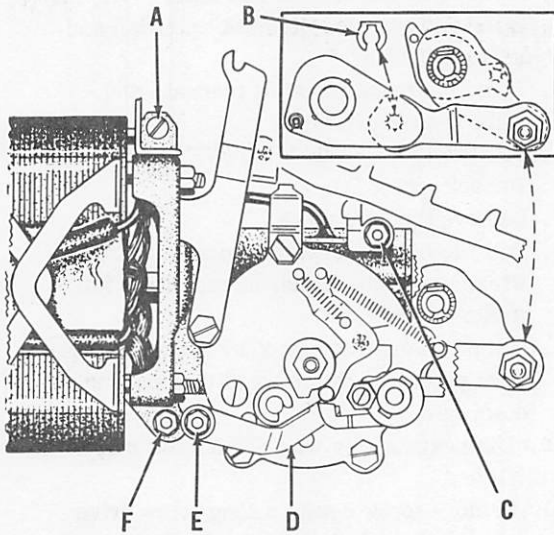

Fig. IX-75
2. Remove the motor and drive (Figure IX-75).